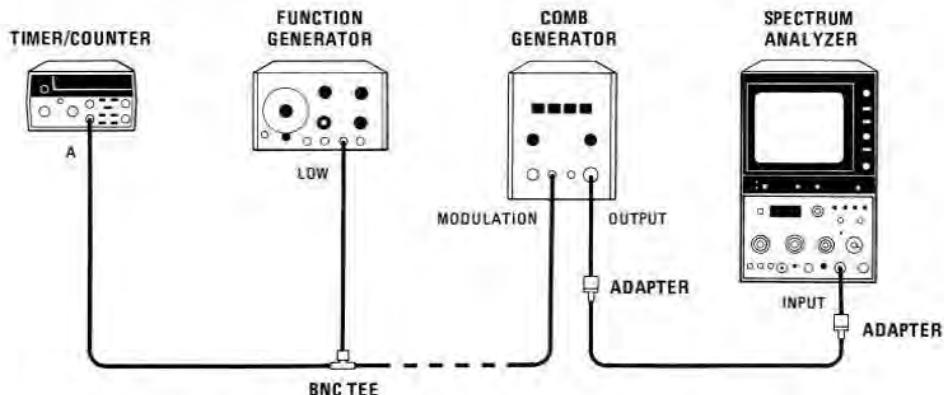

FIGURE 4-1. FREQUENCY SPAN ACCURACY TEST SETUP
- Connect equipment as shown in Figure 4-1 but do not connect function generator to comb generator.